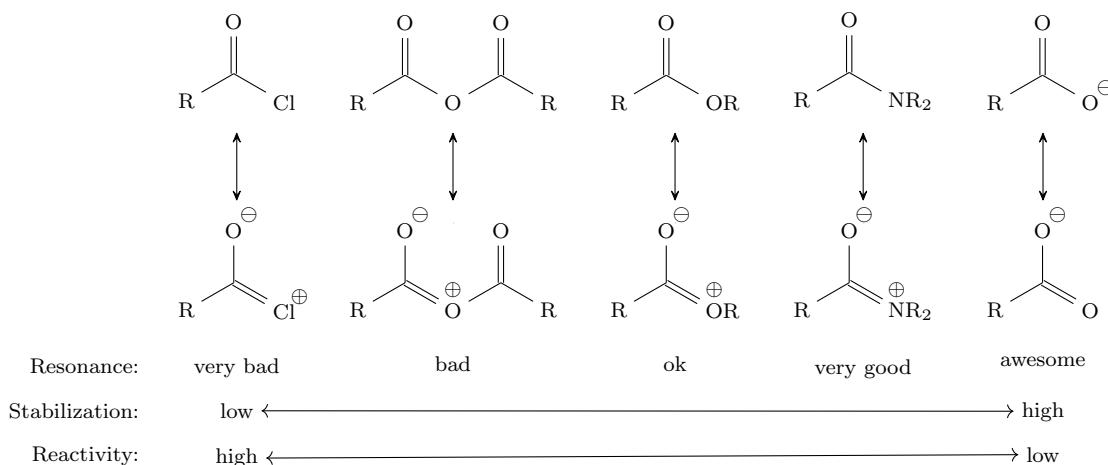

Figure 4.20: Resonance stabilization of carboxylic acid derivatives.
- From Table 4.1 and Figure 4.20, we can see that the better leaving groups tend to form more reactive carboxylic acid derivatives, and vice versa!
- See Table 4.1 and Figure 4.20.
- Recall from Figure 4.20 that amides are very stable.